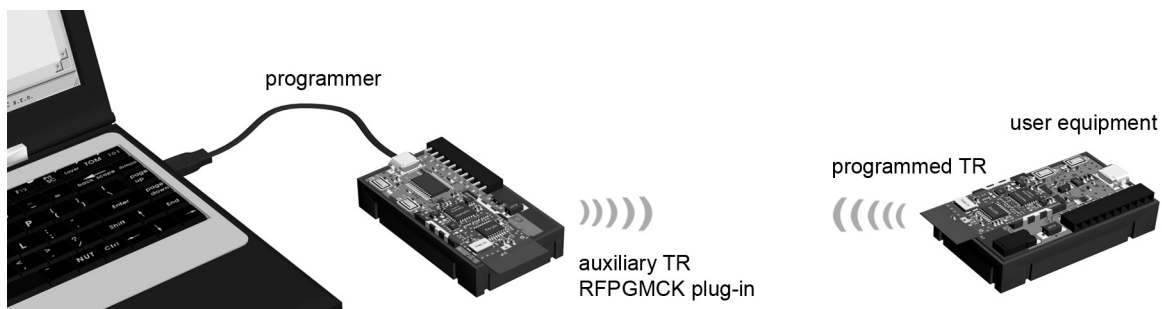

Fig. 2: Wireless upload (RF PGM)
4. **Development phase:** Arrange both TR modules according to Fig. 2 for RF PGM upload and activate the *RF PGM* checkbox.